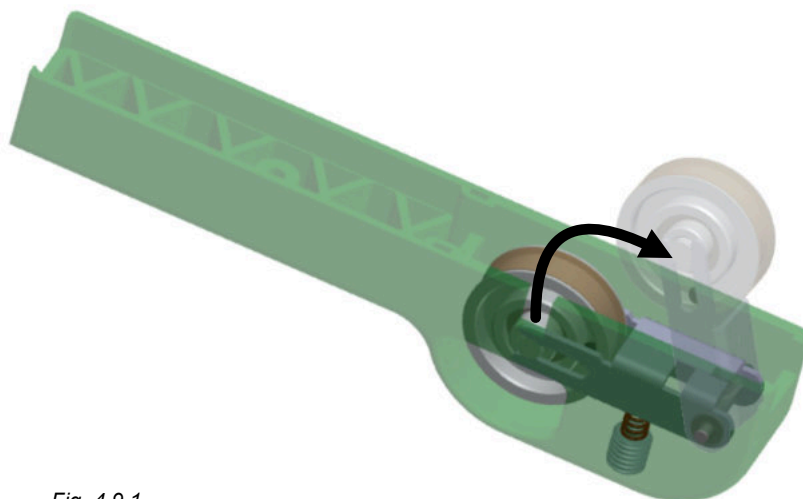

Fig. 4.9.1
3. The wheel will swing up out of the body fig 4.9.1